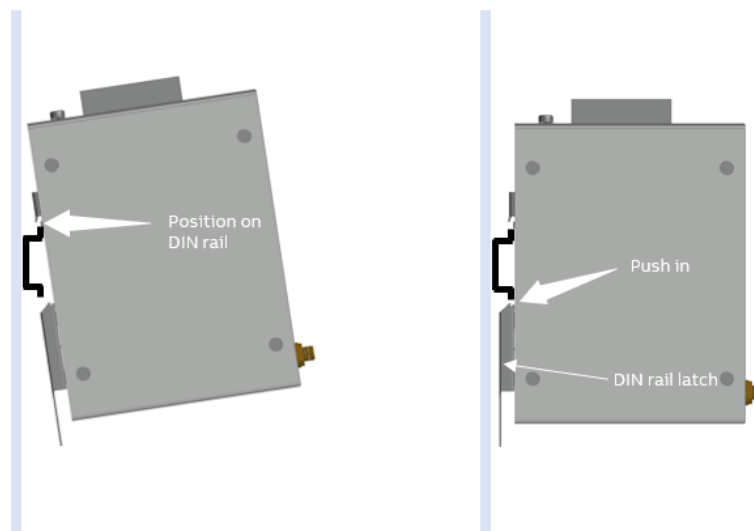

Figure 5: Installing AWIN GW120 on the DIN rail
5. Attach the AWIN GW120 to the mounting rail by positioning the keyway at the top of the module onto the mounting rail (see Figure 5). Then rotate the module inward until the DIN rail latch locks the module in place on the rail. Next, check that the module is fixed securely to the rail by lightly pulling outward on the module.